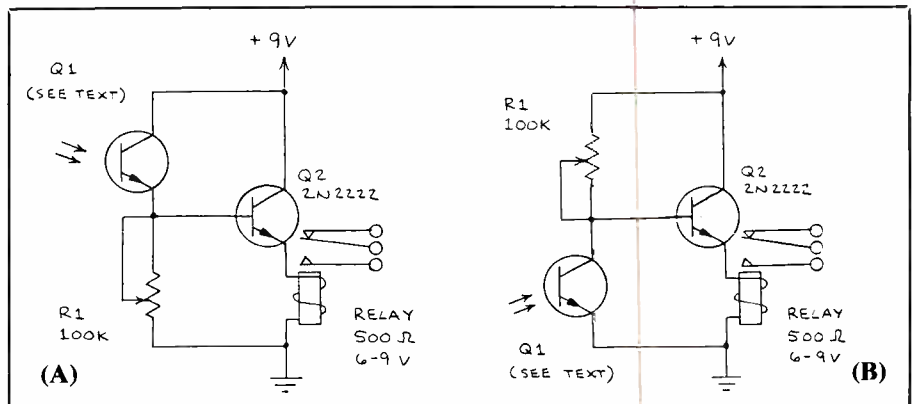

Fig. 14. Light-activated (A) and dark-activated (B) phototransistor relay circuits.
14(A), for example, a simple light-activated relay is made up of only four components. The sensitivity of the circuit is controlled by *R1*. Figure 14(B) shows how the position of the phototransistor and *R1* in Fig. 14(A) can be reversed to make up a dark-activated relay.
Any npn phototransistor should work well in either Fig. 14 circuit. If either circuit triggers erratically or prematurely, the phototransistor is probably receiving ambient light. In this event, either remove the external light source or place a piece of black heat-shrinkable tubing over the phototransistor to form a collimator.